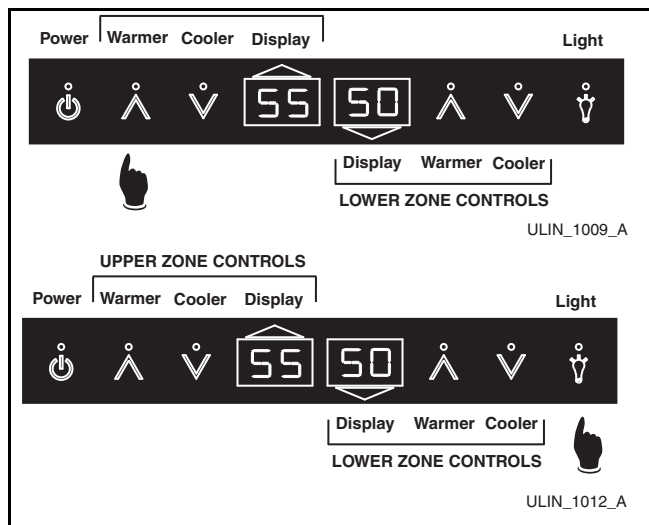

Figure 24. Adjusting Set-Point Temperature-2275ZWC/ 2275ZWCOL
1. Press and release the desired zone WARMER icon to put the controller in the SET TEMPERATURE mode. The current range symbol will show on the display (**top, Figure 24**).
3. When the desired range is displayed, press the LIGHT icon to display the current set-point temperature (**bottom, Figure 24**).